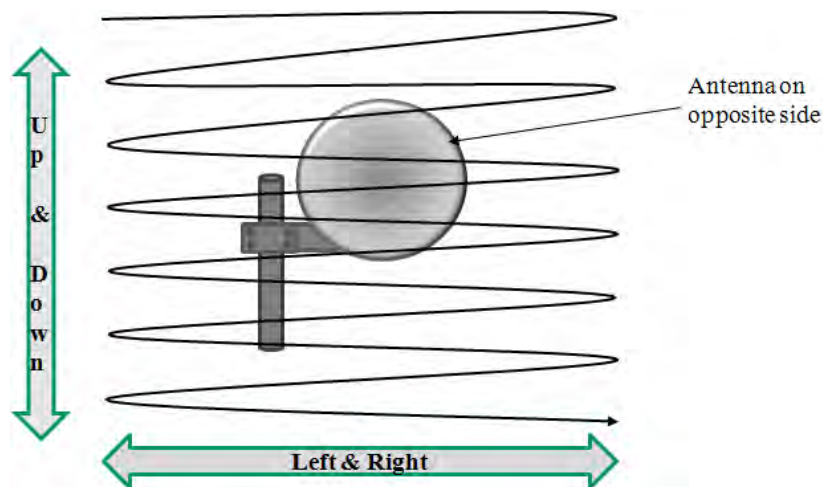

Figure 6-5: Antenna alignment scan
5. Turn the Azimuth and Elevation Adjustment Screws at each antenna left/right for best azimuth alignment and up/down for best elevation alignment and observe the voltmeter reading. The goal is to find the maximum RSSI voltage reading on both sides of the link. Using a meander-like scan pattern has proven to be the most efficient way to align the antennas. This is illustrated in Fig. 6-5.